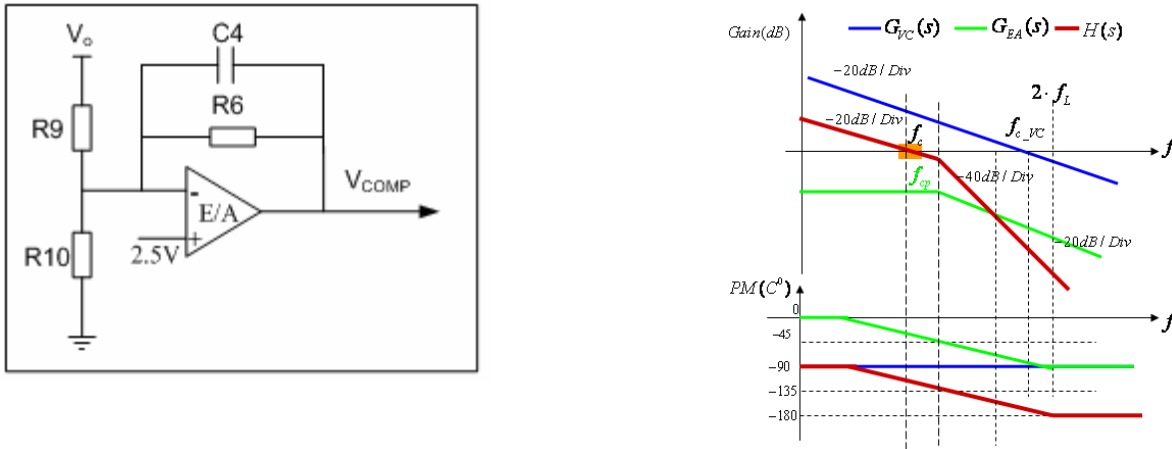

Figure 12—Bode Plots of Type1 Compensation Network
Type-1 compensation network includes a proportion and a pole, as shown in the Figure 12. This type of compensation can provide larger than 45° phase margin, but its drawback is the gain at lower frequency would be limited. This would cause worse load regulation.
4) At light load, the downstream stage would run into burst mode. Therefore, the power loss of PFC stage can be reduced by synchronized ON/OFF of the PFC stage and the downstream stage. For example, MP44010 can be synchronized by HR1000 to reduce the light load power loss. Figure 12 shows the recommended circuit.